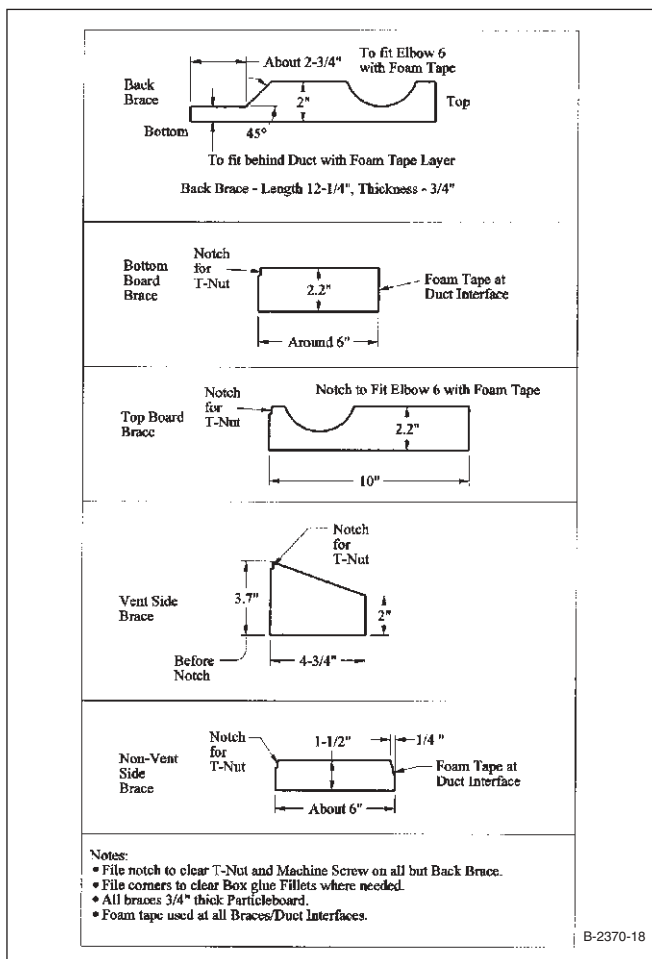

FIGURE 18: Side braces for boxes.
*Figure 18* shows the approximate dimensions for the panel braces. The exact shape of the vent duct structure will set the length and other aspects of most of these braces. You must hand-fit each brace which will likely be different for each box. The duct structure and these braces make building these boxes a time-consuming task.
4. Brace on side with vent exit. Cut this brace to the size shown in Fig. 18. You must file it to clear the T-nut and any glue fillets, but it does not interface with the duct structure. We glued and clamped it and also retained it with two nails through the side board.
6. Back board brace. This brace, which will vary considerably in shape based on your exact duct implementation, runs vertical just to the wide FP side of and against the top brace. You must cut the bottom end low enough to slide under the duct with a layer of foam tape at the interface and file it to clear the bottom/back glue fillet. Near the top, this brace has a semi-circular cut to retain the vent duct at the far end of the second 90° elbow (6). We again used foam tape at the interface, so this brace retains the duct to help prevent it from vibrating. Install this brace by gluing and clamping. *Photo 12* shows all installed braces and damping blocks prior to top installation.